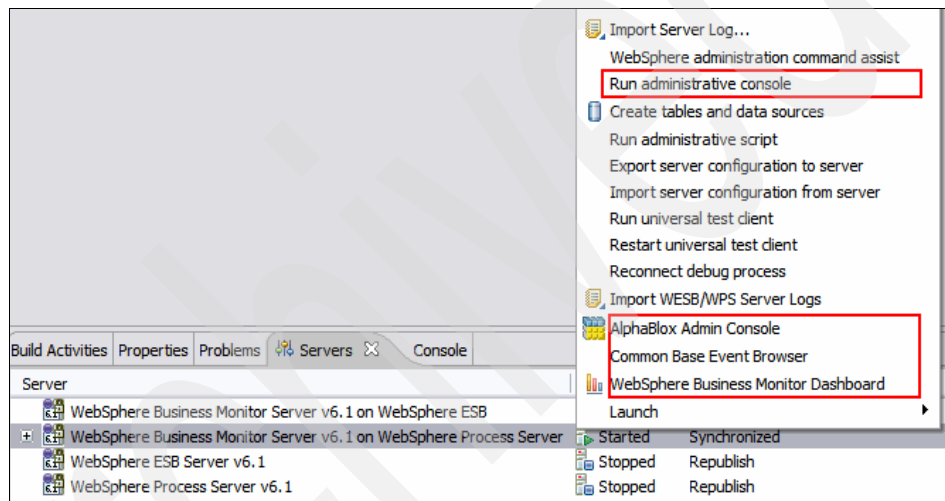

Figure 3-10 Servers
- b. When the server is started, launch the WebSphere Application Server Administrative Console to verify that Monitor Models, Action Manager, Web Dashboard, Monitor Rest Services, and Alphablox Web Dashboards have been installed. From the Servers view (Figure 3-10):